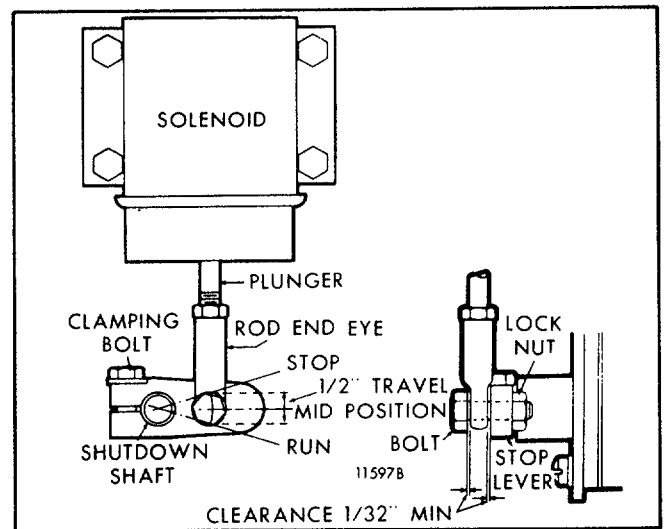

Fig. 4. - Typical Variable Speed Governor Lever Position
1. Remove the bolt connecting the rod end eye (variable speed governor) or the right angle clip (limiting speed governor) to the stop lever (Figs. 4 and 5). Align and clamp the lever to the shutdown shaft in such a way that, at its mid-travel position, it is perpendicular to the solenoid plunger. This assures that the linkage will travel as straight as possible. The solenoid plunger has available 1/2" travel which is more than adequate to move the injector control racks from the full-fuel to the complete no-fuel position and shutdown will occur prior to attaining complete travel.